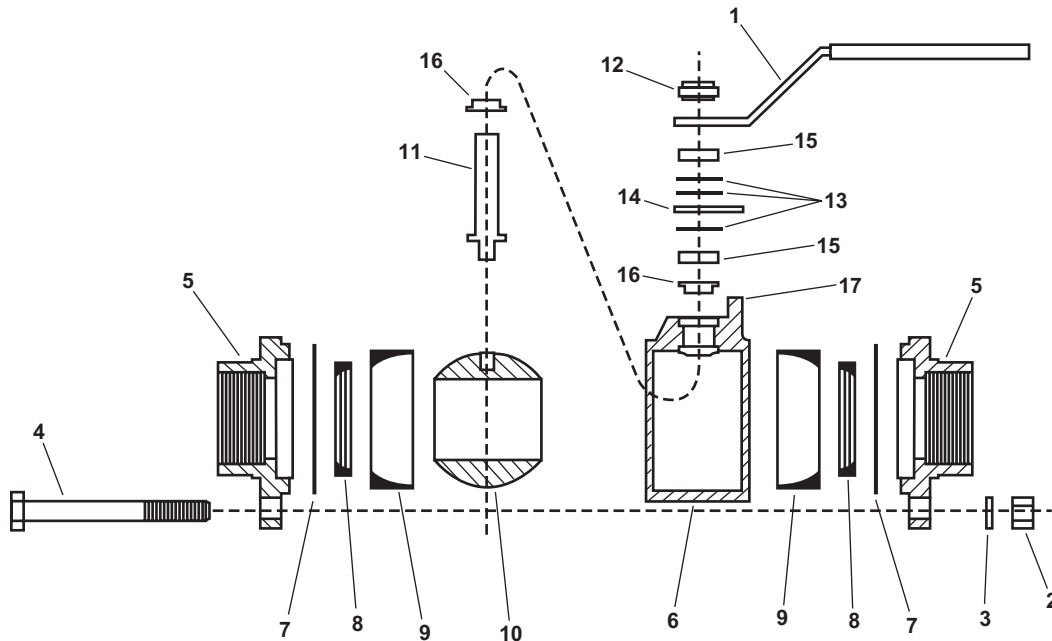

Figure 1. Sil Braze Ball Valve
1. Cycle the affected valve handle (figure 1, item 1) to drain any fluid, and remove any pressure from the valve body cavity.
2. Unscrew and remove the three sets of nuts (figure 1, item 2) and lockwashers (figure 1, item 3) from the bolts (figure 1, item 4). Discard the lockwashers (figure 1, item 3).
3. Pull the end fittings (figure 1, item 5) free of the valve body (figure 1, item 6).
4. Remove the gaskets (figure 1, item 7) and seats (figure 1, item 8) from the end fittings (figure 1, item 5). Discard the gaskets.
5. Remove the cavity filler (figure 1, item 9) from the ball (figure 1, item 10), and discard.
6. Turn the stem (figure 1, item 11), to position the ball (figure 1, item 10), to the CLOSED position, and remove the ball from the valve body (figure 1, item 6).
7. Unscrew and remove the locking jam nut (figure 1, item 12) from the handle (figure 1, item 1), and remove the handle. Discard the jam nut (figure 1, item 12).
8. Remove the three spring washers (figure 1, item 13), stop disk (figure 1, item 14), and followers (figure 1, item 15) from the stem (figure 1, item 11). Discard the spring washers (figure 1, item 13).
9. Push the stem (figure 1, item 11) down and out of the open end of the valve body (figure 1, item 6).
10. Remove the upper and lower valve packing (figure 1, item 16) and discard.
1. Place the new bottom packing (figure 1, item 16) over the stem (figure 1, item 11) with the flanged surface seated against the flange on the stem.
2. Insert the stem (figure 1, item 11) into the valve body (figure 1, item 6) bore.
3. Install the new upper packing (figure 1, item 16) over the stem (figure 1, item 11) with the flanged surface facing upward, and push the packing into the valve body (figure 1, item 6) counter bore.
4. Install the bottom follower (figure 1, item 15) over the stem (figure 1, item 11), and push it into place in contact with the upper packing (figure 1, item 16).
5. Lubricate the valve stem (figure 1, item 11) threads with antiseizing compound.
6. Install the first new spring washer (figure 1, item 13) over the stem (figure 1, item 11) with the concave side facing upward.
7. Install the stop disk (figure 1, item 14).
8. Install the second new spring washer (figure 1, item 13) with the concave side facing downward, resting on the stop disk (figure 1, item 14).
9. Install the third spring new washer (figure 1, item 13) with the concave side facing upward.
10. Install the top follower (figure 1, item 15) on the stem (figure 1, item 11) in contact with the third new spring washer (figure 1, item 13).
11. Install the handle (figure 1, item 1) over the top follower (figure 1, item 15) on the stem (figure 1, item 11) such that the handle is over the stop pin (figure 1, item 17) on the stop disk (figure 1, item 14) when the valve is in the OPEN position.
12. Install a new jam nut (figure 1, item 12) on the stem (figure 1, item 11) to retain the handle (figure 1, item 1) in place. Tighten the jam nut until all spring washers (figure 1, item 13) are fully compressed and then loosen 1/8th of a turn.
13. Install new seats (figure 1, item 8) in the end fittings (figure 1, item 5) with the flat end of the seat inserted in the flat recess in the end fitting.
14. Install new gaskets (figure 1, item 7) on the end fittings (figure 1, item 5).
15. Rotate the stem (figure 1, item 11) to position the valve to the CLOSED position.
16. Insert the ball (figure 1, item 10) into the valve body (figure 1, item 6).